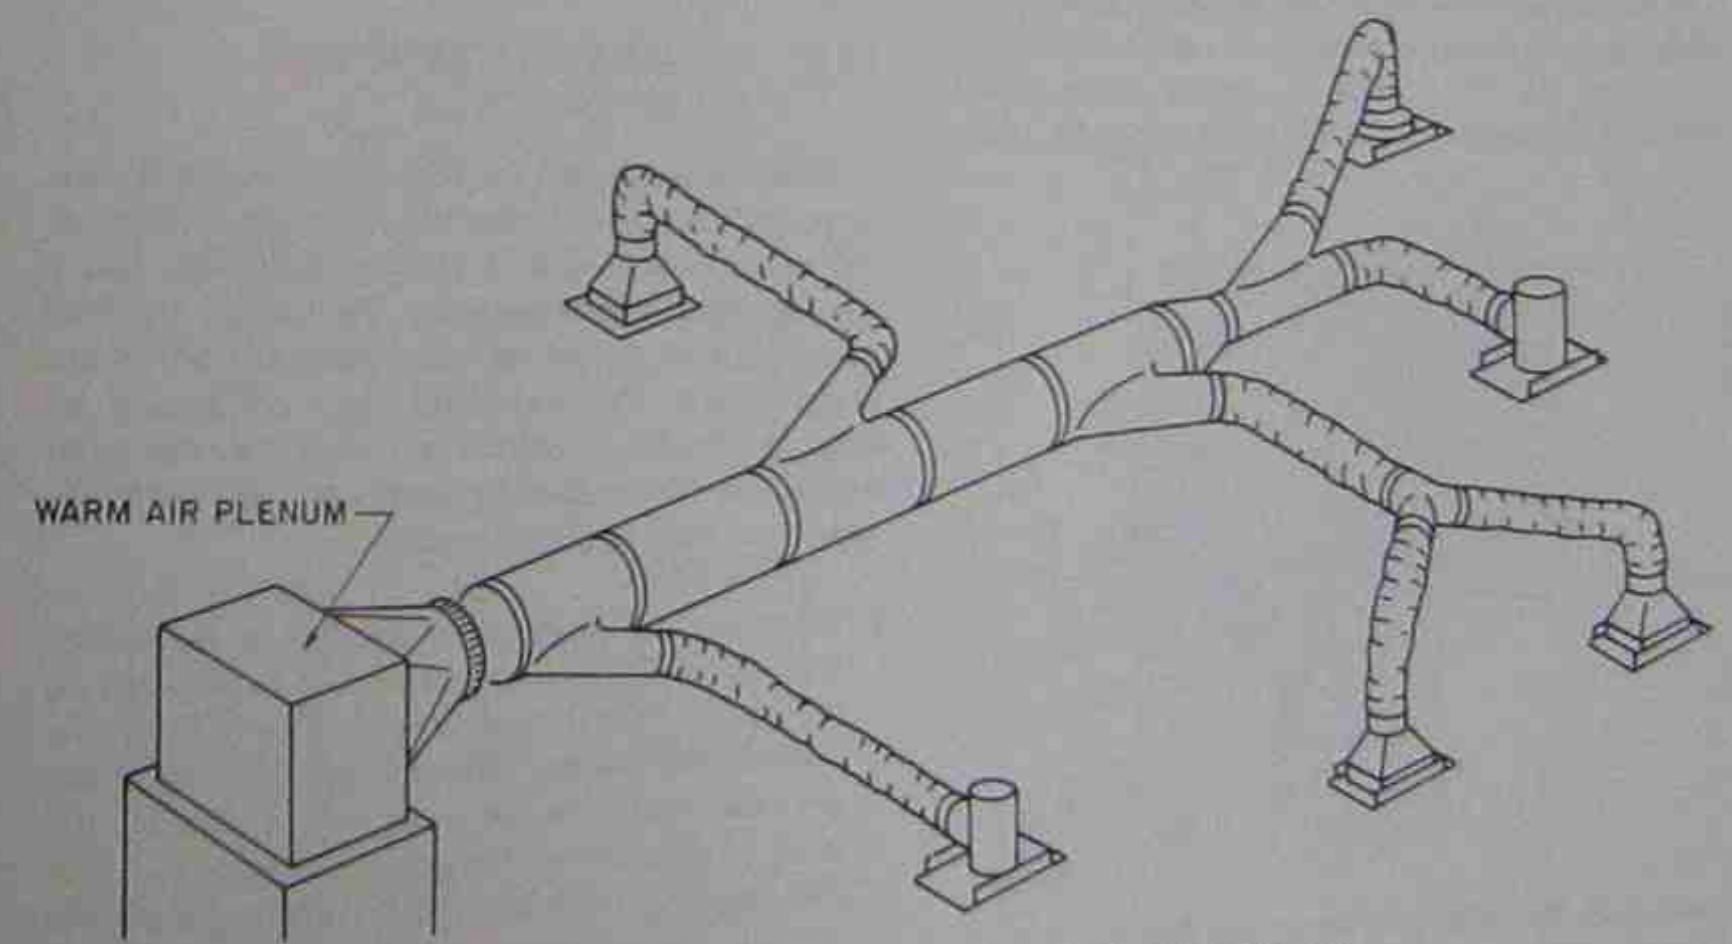

Figure 39-42. All round metal trunk line with flexible branch lines.
9. All round metal trunk lines with flexible branch ducts, Figure 39-42.